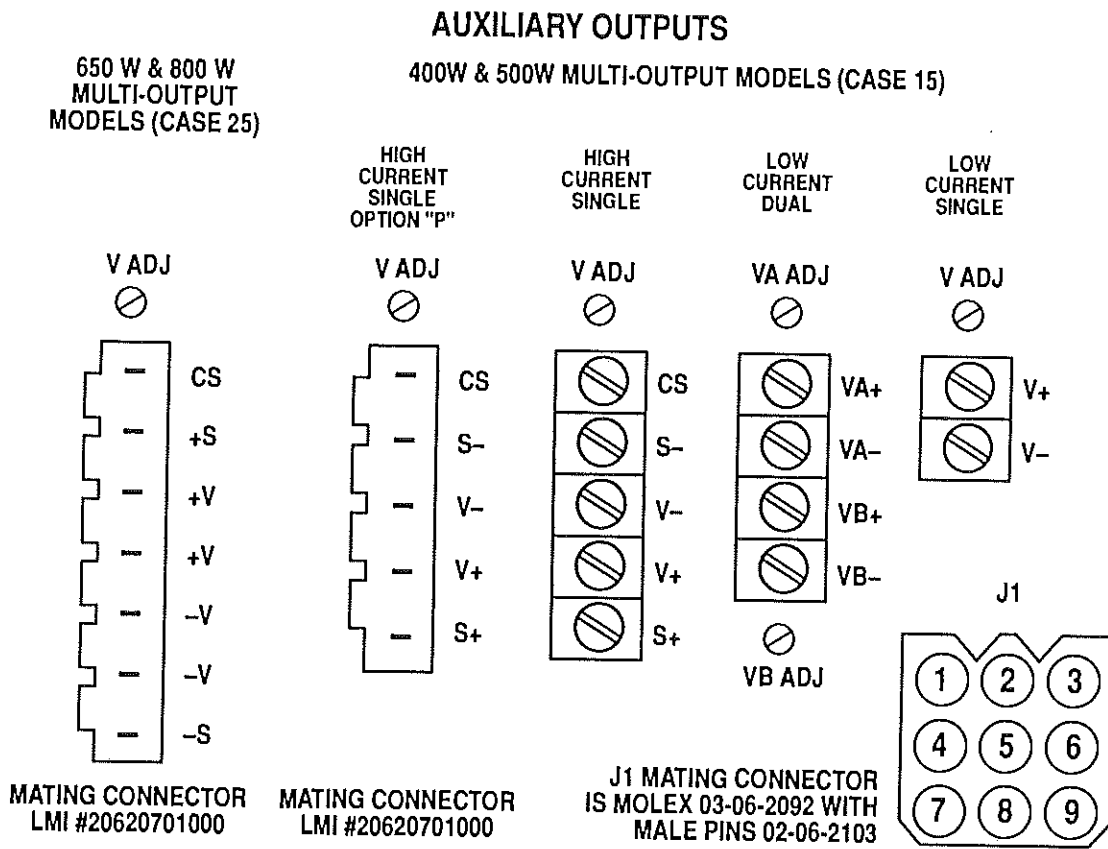

Figure 7. Auxiliary Output and Control & Supervisory Signal Connections
- 9.4 **Remote Sensing.** Remote sense connections for the main output are made to pins 1 and 4 of J1. For high current auxiliary outputs the connections are made on the barrier strips or pluggable connectors as shown in Fig. 7. The dual outputs and low power single outputs do not have remote sensing.
The connections for the auxiliary outputs and the control and supervisory signals are shown in Fig. 7. Following are the pin designations for J1.